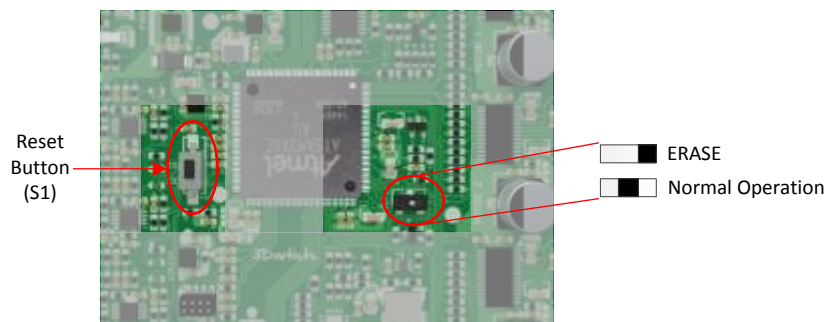

Figure 16 – S4 Dip-Switch configuration
- Move the S4 dip-switch in *ERASE* Mode (see Figure 16)
- Move the S4 dip-switch in *Normal Operation* Mode (see Figure 16)